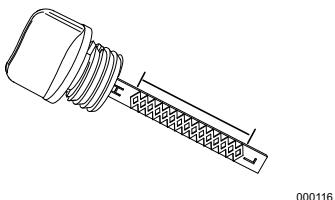

Figure 4-2. Safe Operating Range
4. Screw dipstick into filler neck. Remove dipstick and verify oil level is within safe operating range. See **Figure 4-2**.